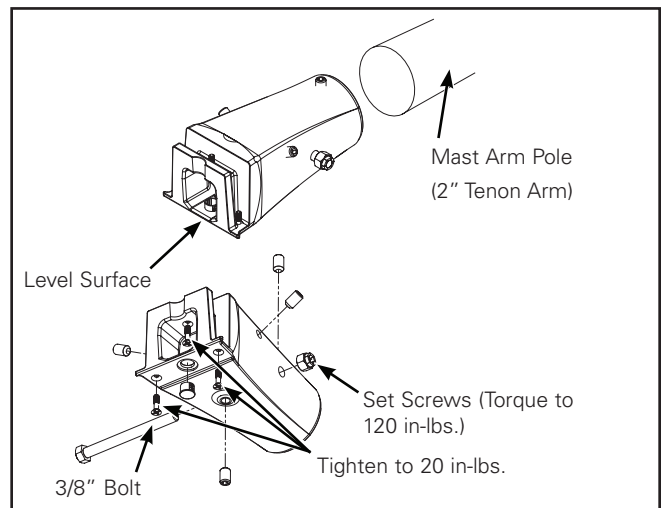
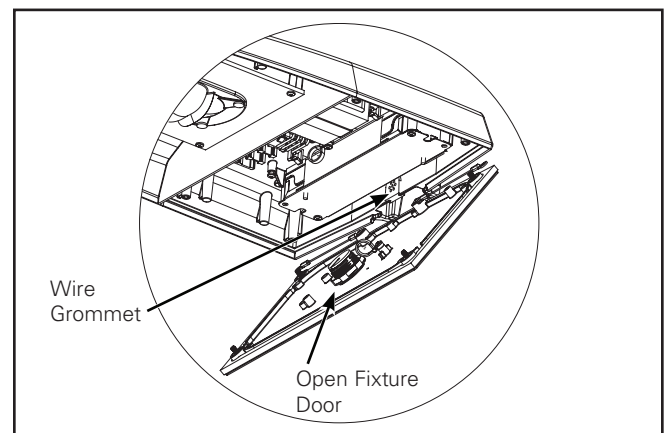

Figure 7.
Figure 8.
Mast Arm Mount (Figure 7. and Figure 8.)
2. Secure the mast arm adapter to the mast arm with the (4) 3/8-16 x 3/8" set screws. Level the mast arm adapter while tightening the set screws. Torque to 120 in-lbs.
4. Open fixture door by loosening the (4) Phillips head screws (or thumb screws if supplied) on the door. (Figure 8.)
5. Remove wire grommet for fixture wires at the back of the fixture. (Figure 8.)
6. Fold fixture wires and mast arm adapter wires out of the way and slide fixture on to the mast arm adapter. Tighten the three phillips head screws to 20 in-lbs. (2.3 N-M), and install the plastic plug over the center screw. (Figure 7.)